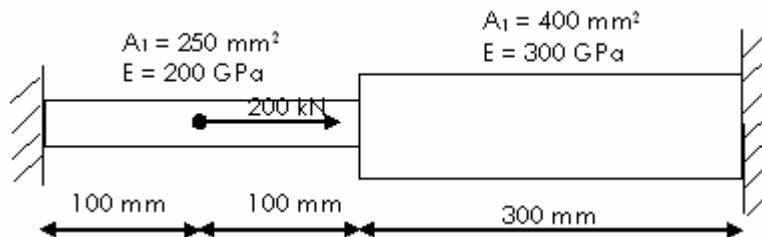

Figure: 1
3. Consider the stepped bar shown in Figure 1. Assemble the stiffness and force matrix. Also, determine the nodal displacements, element stresses and support reactions. [16]